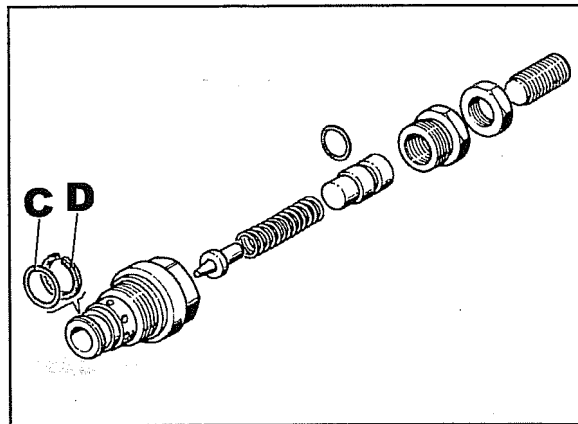

Fig. 15
- 21 Unscrew the valve from the solenoid assembly and dismantled it as shown in fig. 15.
Check seal rings **C-D** fig. 15 and replace them as necessary. Wash and dry all the parts with compressed air to eliminate all soiling.